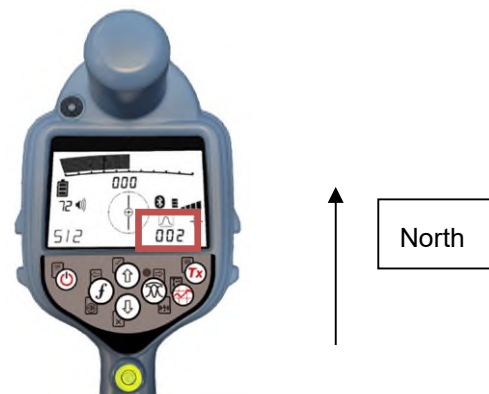

Figure 8
- CHECK – displays the current heading value under the bar graph (figure 8). This is useful to compare heading accuracy with another physical or digital device. The error is also shown in the bottom right (figure 8).
4. Once 50 valid measurements are obtained, the RD8200SG will automatically switch into the **CHECK mode**. The purpose of check mode is to **evaluate calibration quality**. In this mode the two highlighted numbers (figure 8) will be different – the top number represents magnetic heading (like a conventional compass with north being 0 degrees) and the bottom number represents the calibration percentage error.
6. For a successful calibration, the calibration percentage error (bottom highlighted number in figure 8) must be less than 5%.